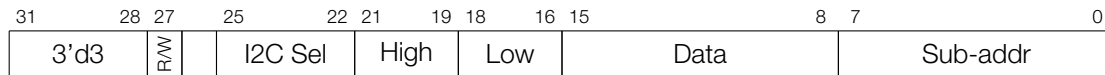

Figure 155: Instruction Type – I2C
**Operand**    **Description** - see Figure 155